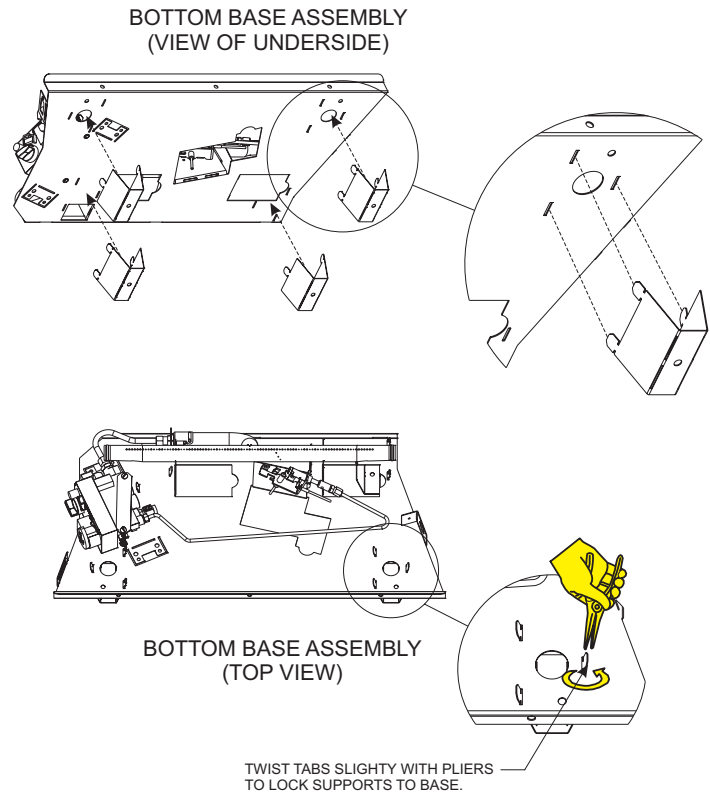

Figure 10
- If a Remote Control option is to be used with the VFRL (millivolt) series burner without the Support Legs installed, the remote receiver box must be installed outside of the firebox away from excessive heat. However, the remote receiver may be placed under the elevated Loft Burner by installing the (4) Burner Support Legs. See Figure 10.
To install the Support Legs, simply bend each of the (4) legs into a "U" shape to match the drawing in Figure 11. Next, install the legs into the bottom base. Line up the three tabs on each leg with the slots provided, using pliers, twist each of the tabs slightly to secure the legs to the bottom base. See Figure 10.